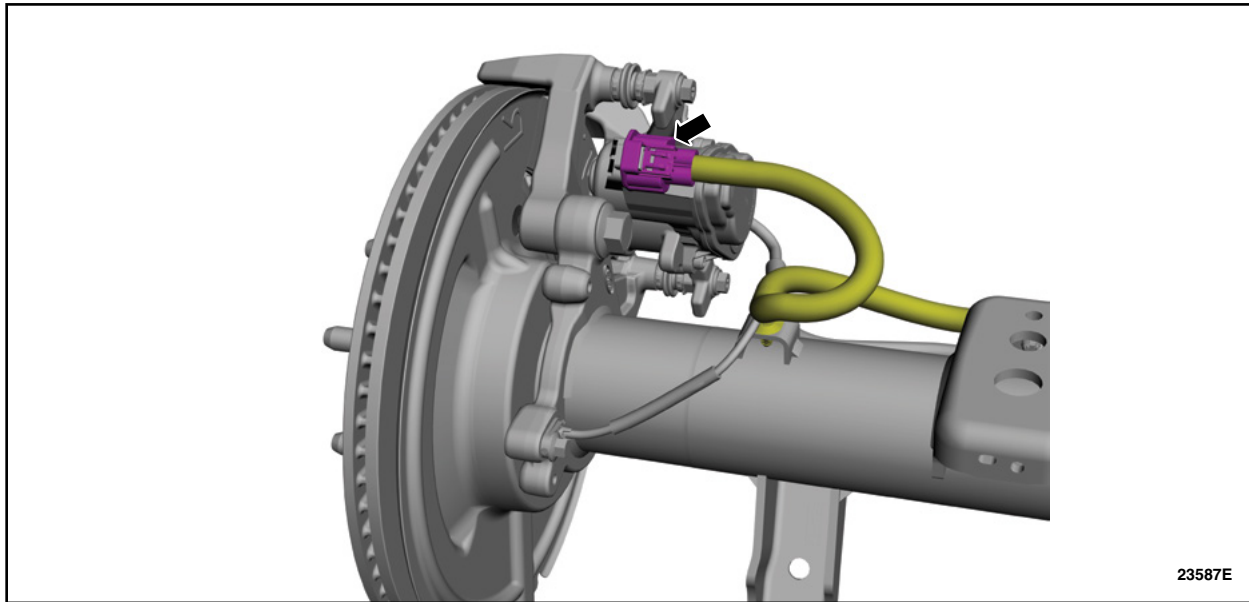

FIGURE 4
7. On both sides, disconnect the Electric Parking Brake (EPB) actuator motor electrical connector and position aside the wiring harness. See Figure 4.
13. On both sides, position back the wiring harness and connect the Electric Parking Brake (EPB) actuator motor electrical connector. See Figure 4.